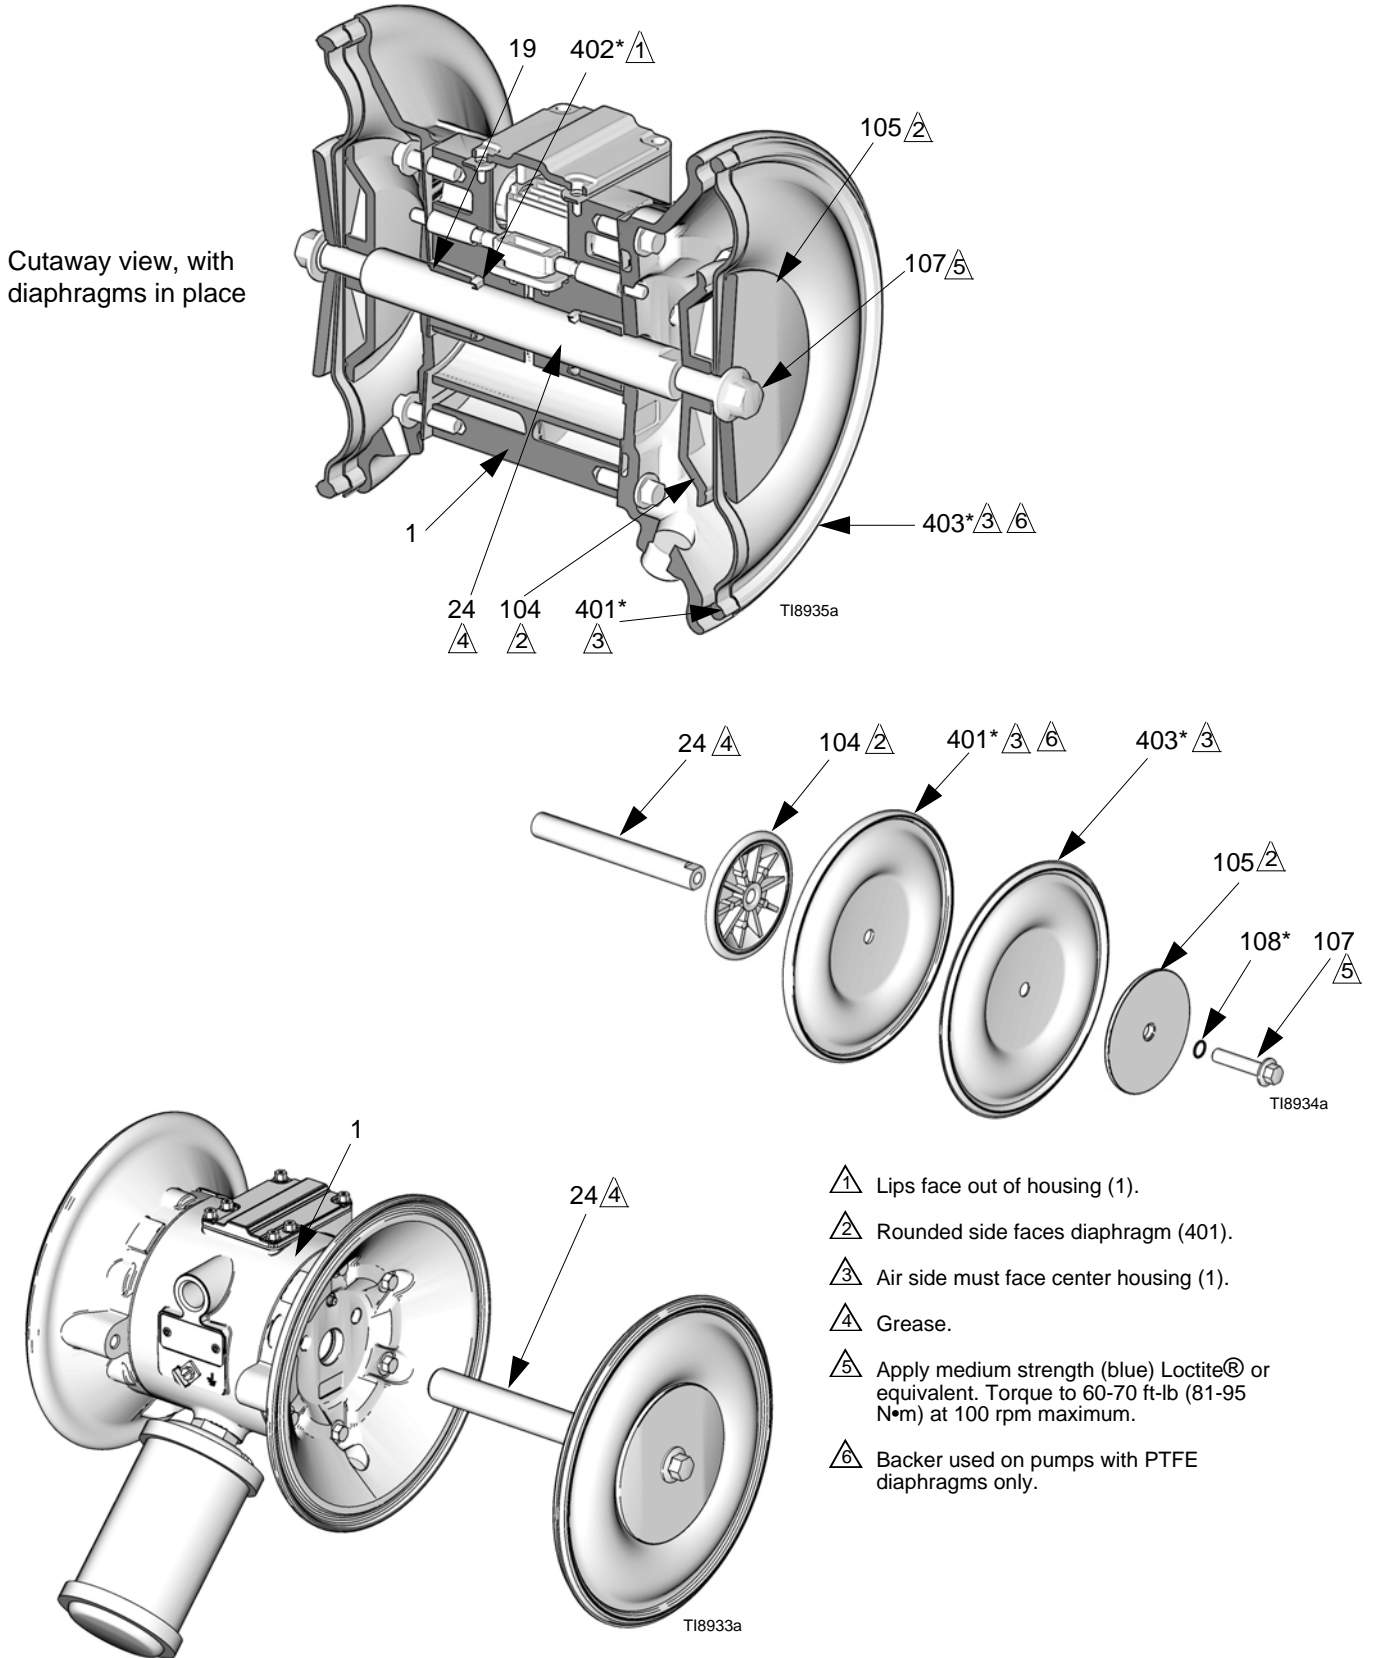

FIG. 11
4. Loosen but do not remove the diaphragm shaft bolts (107), using a 15 mm socket wrench on both bolts. See FIG. 11.
5. Unscrew one bolt from the diaphragm shaft (24) and remove the o-ring (108), fluid side diaphragm plate (105), diaphragm (403), backer (401) used only on PTFE models, and air side diaphragm plate (104). See FIG. 11.
6. Pull the other diaphragm assembly and the diaphragm shaft (24) out of the center housing (1). Hold the shaft flats with a 19 mm open end wrench, and remove the bolt (107) from the shaft. Disassemble the remaining diaphragm assembly.
7. Inspect the diaphragm shaft (24) for wear or scratches. If it is damaged, inspect the bearings (19) in place. If the bearings are damaged, refer to page 24.
8. Reach into the center housing (1) with an o-ring pick and hook the u-cup packings (402), then pull them out of the housing. This can be done with the bearings (19) in place.
- d. On PTFE models only, install the backer (401*) on the bolt. Make certain the side marked AIR SIDE faces the center housing (1).
- e. Install the air side diaphragm plate (104) so the rounded side faces the diaphragm (401). This plate is stamped with its part number.
- f. Apply medium-strength (blue) Loctite® or equivalent to the bolt (107) threads. Screw the bolt into the shaft (24) hand tight.
1. Install the shaft u-cup packings (402*) so the lips face **out** of the housing (1). Lubricate the packings. See FIG. 11.
2. Install the diaphragm assembly on one end of the shaft (24) as follows:
- a. Install the o-ring (108*) on the shaft bolt (107).
- b. Install the fluid side diaphragm plate (105) on the bolt so the rounded side faces the diaphragm (401).
6. Remove the air cover gaskets (22). Always replace the gaskets with new ones.
7. Use a bearing puller to remove the diaphragm shaft bearings (19), air valve bearings (12) or pilot pin bearings (15). Do not remove undamaged bearings.
8. If you removed the diaphragm shaft bearings (19) reach into the center housing (1) with an o-ring pick and hook the u-cup packings (402), then pull them out of the housing. Inspect the packings. See FIG. 11.
1. If removed, install the shaft u-cup packings (402*) so the lips face **out** of the housing (1). See FIG. 11.
2. The bearings (12, 15, and 19) are tapered and can only be installed one way. Insert the bearings into the center housing (1), **tapered end first**. Using a press or a block and rubber mallet, press-fit the